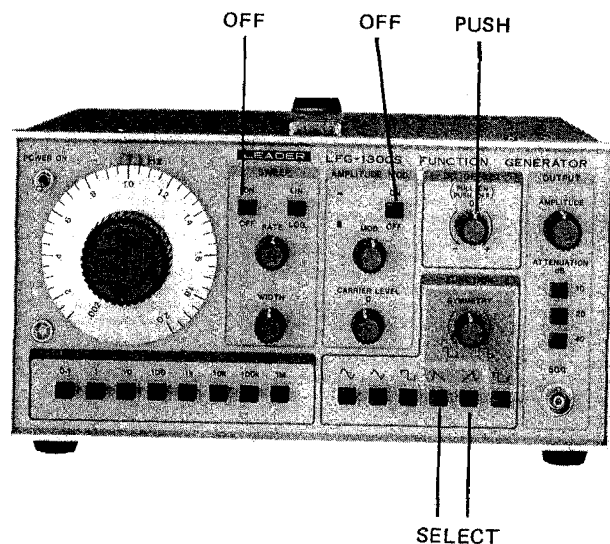

Figure 5-5. Sawtooth Operation
1. Follow paragraph 5-2-1, but depress the  $\nabla$  or  $\triangle$  push-buttons for a falling or rising voltage ramp. Waveform symmetry is fixed at a value of 15:85 or 85:15. See Fig. 5-5.